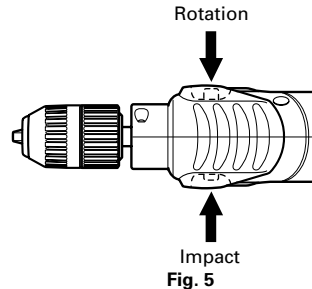

Fig. 5
9. IMPACT to ROTATION changeover (Fig. 5)